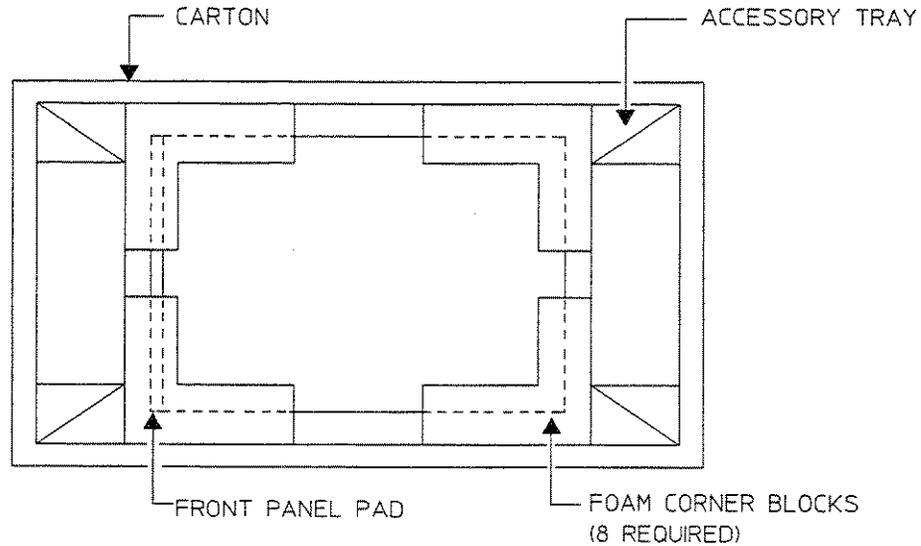

Figure 2-4. Repacking for Shipment
- Containers and materials identical to those used in factory packaging are available through Hewlett-Packard offices, see figure 2-4. If the analyzer is being returned to Hewlett-Packard for service, attach a tag describing the type of service required, the return address, model number, and full serial number. Also, mark the container **FRAGILE** to ensure careful handling. In any correspondence, refer to the analyzer by model number and full serial number.